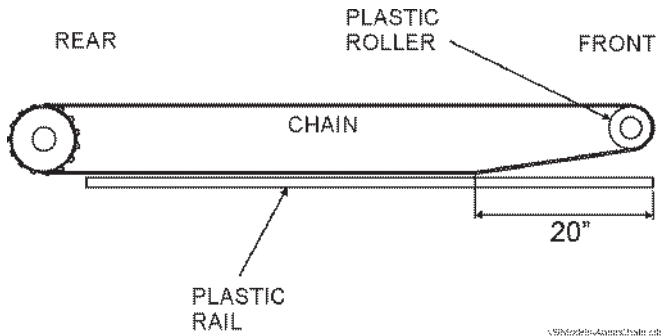

FIGURE 10. ADJUST APRON CHAIN
(A1) The apron chain is adjusted by (4) adjuster bolts located on the front of the box frame, figure 13. Adjust the 1-1/8" bolts so the chain is elevated above the plastic slide rails for 36" as illustrated on figure 10. When there is no more adjustment left on the adjuster screws, loosen the nuts on the bolts and push the bolts in as far as they will go. Then remove a link from each chain and readjust the apron chain